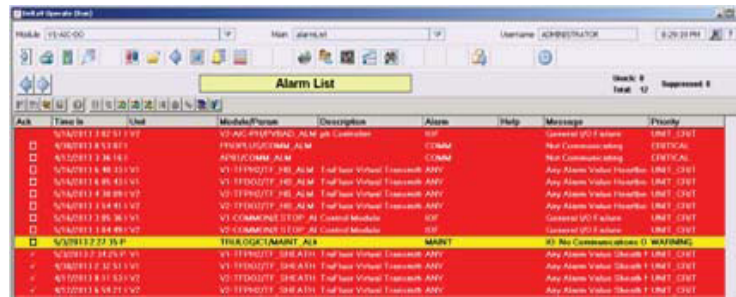

Figure 3.8. Alarm list.
1. Click the alarm button in the toolbar, which will open the list of alarms (Figure 3.8).